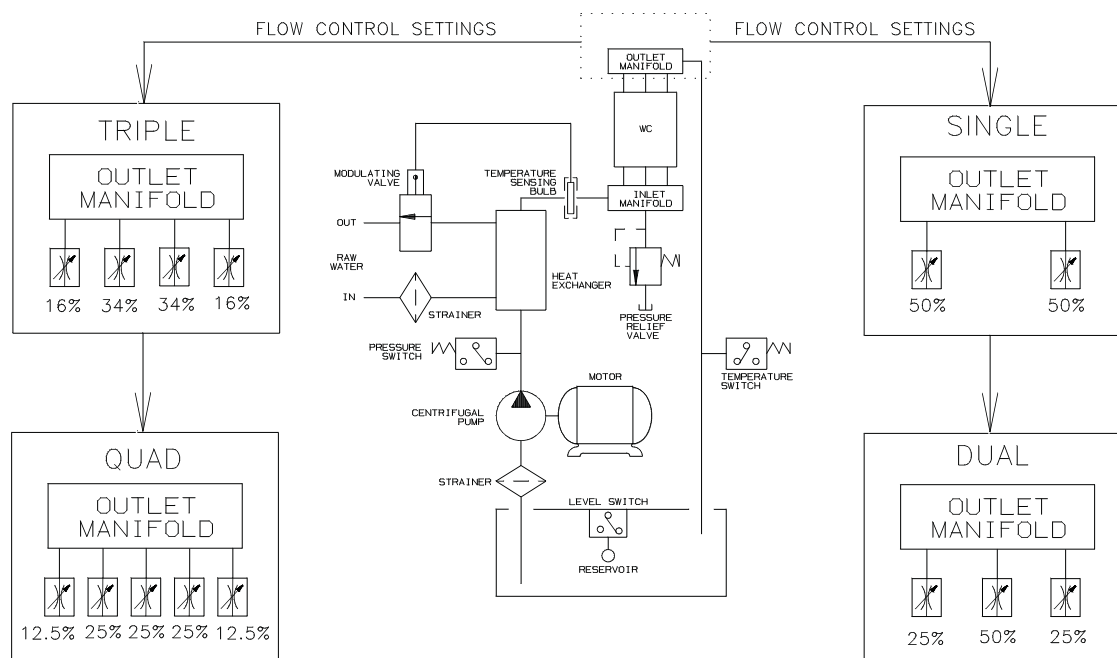

Figure 5
- 2.4.4 Inlet and outlet coolant manifolds must be provided. Manifolds should be constructed to allow for even flow through all ports. On sizes 18" and larger, two hoses can be routed to the reaction plates (30) to assist with balancing the flow to each wear plate.
- Note :** Reaction plates (30) in WCB2 sizes 18" and larger typically have two inlet and two outlet ports to assist with obtaining balanced flow to each cooling chamber. In the event that a multiple disc tensioner includes an older style reaction plate with only one inlet and one outlet port, water flow should be restricted at the inlets to the pressure plate (13) and mounting flange (1) to allow for equally proportional heat dissipation at each cooling cavity. See **Figure 5**
2.4.8 **Figure 5** illustrates a typical closed loop liquid to liquid coolant system. The heat exchanger and temperature control would be replaced with a radiator, fan and motor in a liquid to air system.